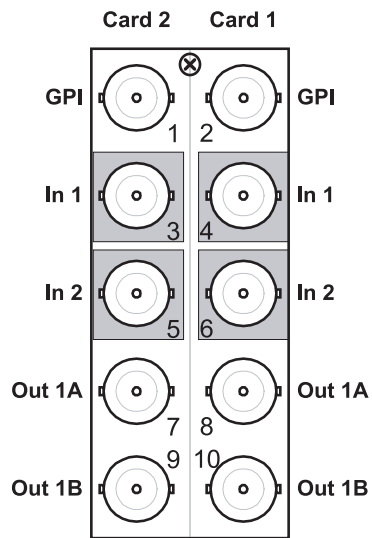

Figure 2.4 Cable Connections for the **8320AR-031** Rear Module
- **8320AR-031** Split Rear Module — Each card occupies one slot and includes two inputs, and two outputs. (**Figure 2.4**)